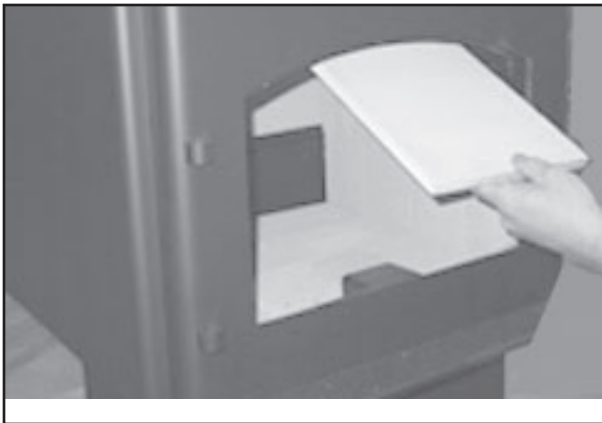

Figure 22.1 - Baffle
3. The baffle board has 2 pieces. With the ceramic blanket still in place, slide one baffle piece over the top of other one and pull out top piece through the door opening and then remove bottom baffle piece. **Figure 22.1.**
6. Slide the baffle pieces one piece at a time underneath the blanket. Be sure the baffle boards are even with the front manifold tube and is resting on all tubes. **Figure 22.1 and 22.2.**